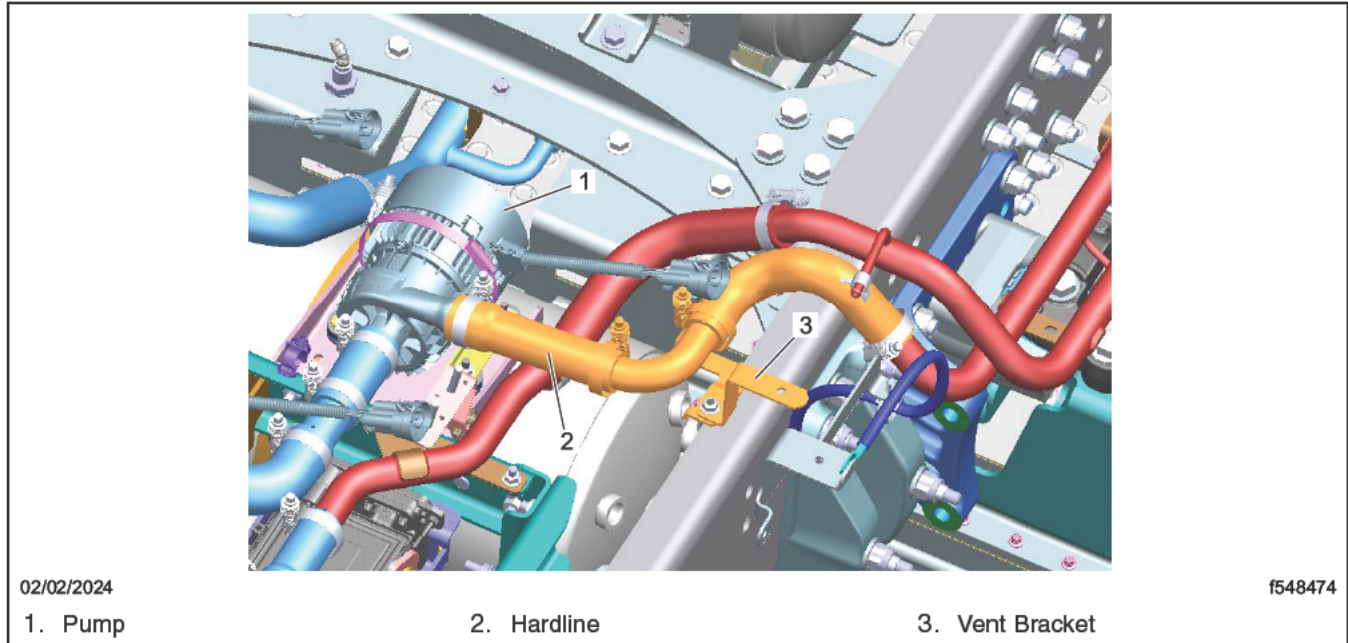

Fig. 9, Connecting Hardline to Pump
27. Install the vent bracket, and install the mounting fasteners. See Fig. 9.